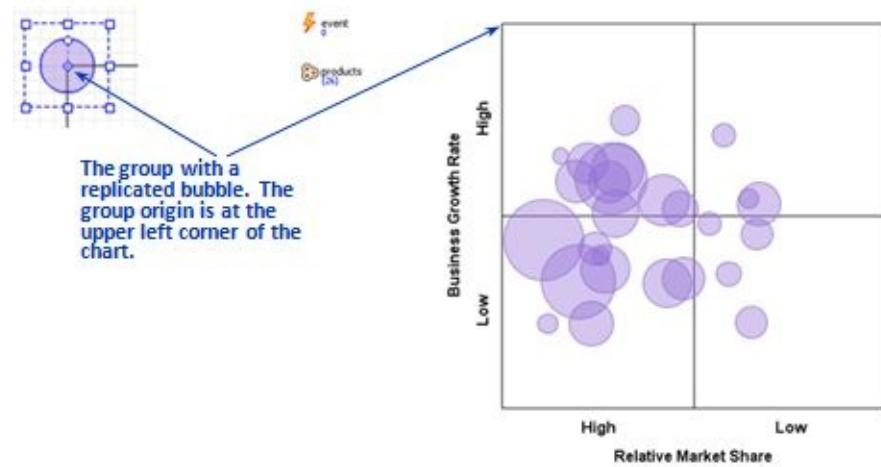

Figure 12.47 The BCG bubble chart at runtime
1. Use a curve to draw a picture of a consumer, e.g. like the one in Figure 12.47. You may use the guiding lines to adjust the shape.